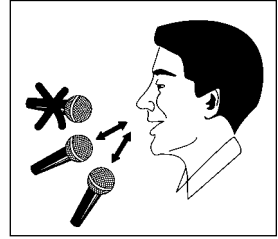

Figure 3
**Vocals** – Try using a handheld style (although mounted on a stand to reduce handling noise) dynamic microphone, such as the SM58 or Beta 58A. Place the microphone roughly 3-4 inches away, and pointed somewhere between the nose and mouth. If possible, try to isolate the vocalist from any unwanted sounds – in another room would be ideal (see figure 3).
**Lead vocal** - Use a handheld, directional microphone (PG58, SM58 or Beta 58A). The microphone should be touching the lips or just a few inches away. The same technique applies to background vocalists or vocal ensembles (see figure 3).